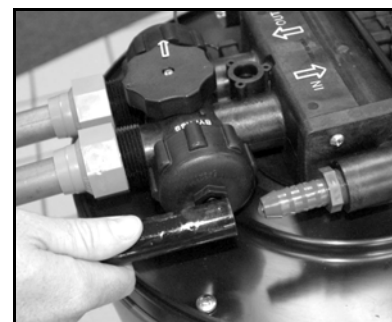

Figure 6: Connect Drain Line
- A. Connect the drain line to the drain end cap (See Figure 6) with a minimum 1/2-inch (13-mm) I.D. tubing (supplied). The size cannot be reduced.